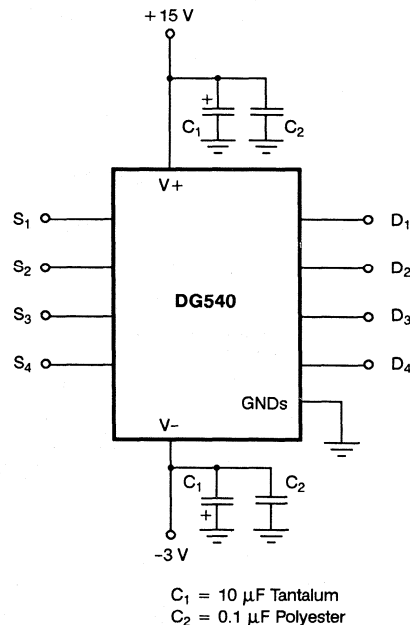

Figure 9. Supply Decoupling
- a) Decoupling capacitors should be incorporated on all power supply pins ($V+$, $V-$). (See Figure 9)